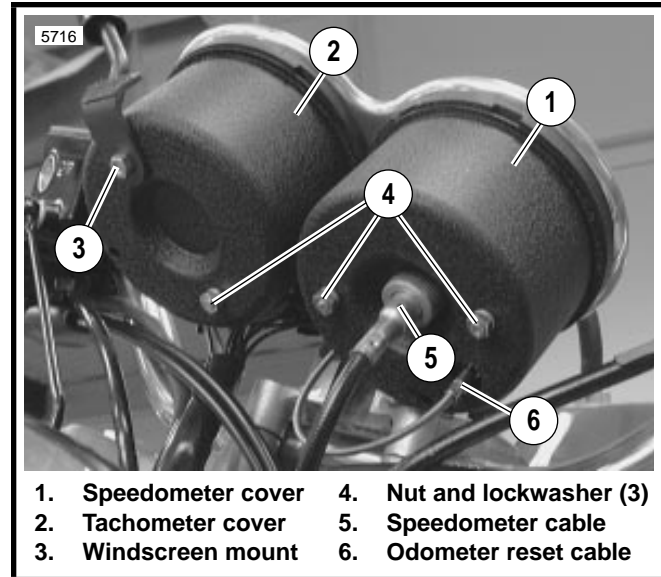

Figure 2-54. Instruments
2. See Figure 2-54. Loosen and remove the speedometer cable (5) from the speedometer.
3. Remove nuts and lockwashers (4) from speedometer cover (1).
2. See Figure 2-54. Remove nut and lockwasher (4) from tachometer cover (2).
3. Remove nut on windscreen mount (3). Remove windscreen mount from tachometer cover.
4. See Figure 2-54. Using a **new** cotter pin, connect reset cable assembly (6) to speedometer.
5. Place speedometer cover over speedometer. Tighten nuts and lockwashers (4).
6. Connect speedometer cable (5) to speedometer.
4. See Figure 2-54. Slide tachometer cover (2) over tachometer. Install nut and lockwasher (4).
5. Install windscreen mount (3) with nut.